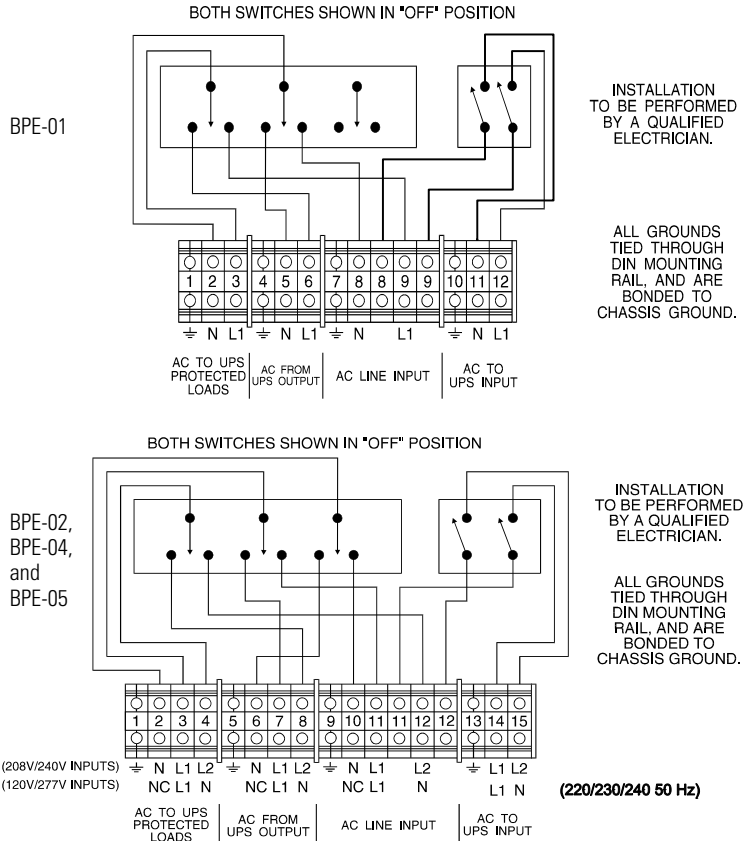

Figure 33. External Bypass Switch Terminal Strip Labels
7. Find the terminal strip inside the bypass switch. Using the label on the back of the switch's lower front cover panel, wire the terminal strip and tighten all connections securely. Use copper wire and the appropriate wire size for the current. See Figure 33 for sample terminal strip labels.